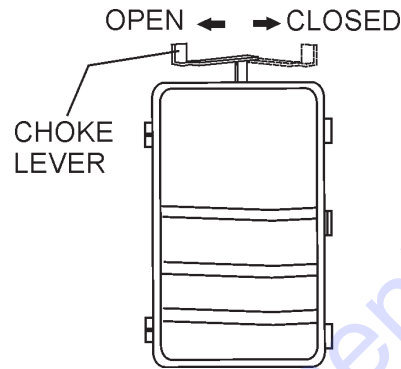

Figure 10. Choke Lever
2. Place the **choke lever** (Figure 10) in the "**CLOSED**" position if starting a **cold** engine.
3. Place the **choke lever** (Figure 10) in the "**OPEN**" position if starting a **warm engine** or the **temperature is warm**.